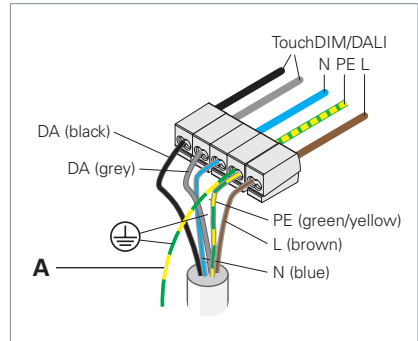

Fig. 16: Connecting the luminaire.
- ▶ Connect the grounding cable **A** at the connection side of the luminaire to the protective earth conductor terminal, see Fig. 16.